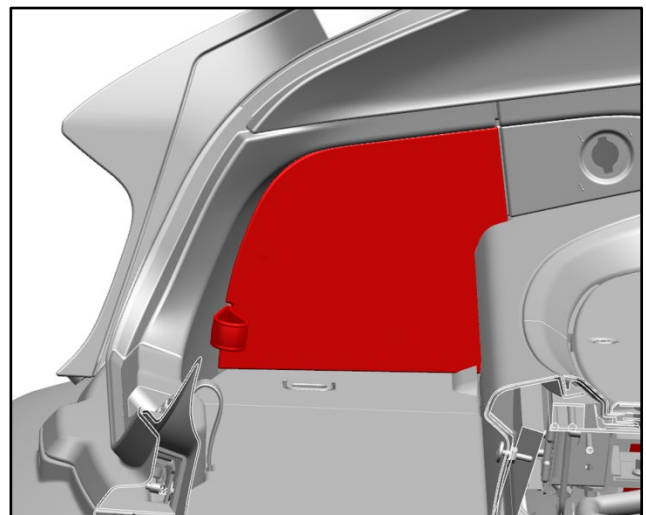

Figure 4
5. Remove the left side door assembly in the luggage compartment (refer to Figure 4).